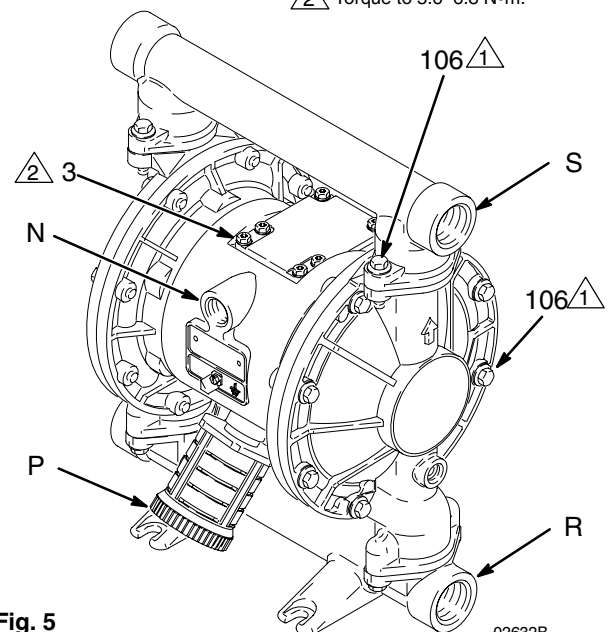

Fig. 5
- a. Install an air regulator (C) and gauge to control the fluid pressure. The fluid outlet pressure will be the same as the setting of the air regulator.
- b. Locate one bleed-type master air valve (B) close to the pump and use it to relieve trapped air. See the **Warning** above. Locate the other master air valve (E) upstream from all air line accessories and use it to isolate them during cleaning and repair.
- c. The air line filter (F) removes harmful dirt and moisture from the compressed air supply.
2. Install a grounded, flexible air hose (A) between the accessories and the 1/2 npt(f) pump air inlet (N). See Fig. 5. Use a minimum 9.5 mm ID air hose. Screw an air line quick disconnect coupler (D) onto the end of the air hose (A), and screw the mating fitting into the pump air inlet snugly. Do not connect the coupler (D) to the fitting until you are ready to operate the pump.
1. Use grounded fluid hoses. The pump fluid inlet (R) is 1 in. bspt. See Fig. 5. Screw the fluid fitting into the pump inlet securely.
1. Use grounded fluid hoses (L). The pump fluid outlet (S) is 1 in. bspt. See Fig. 5. Screw the fluid fitting into the pump outlet securely.
On aluminum pumps, the fluid inlet and outlet manifolds have threaded ports on both ends. The pump is shipped with a plug installed in one end of each manifold, and the opposite end open. See Fig. 5. To change the orientation of the inlet and/or outlet port, remove the plug from one end of a manifold and install it in the opposite end.